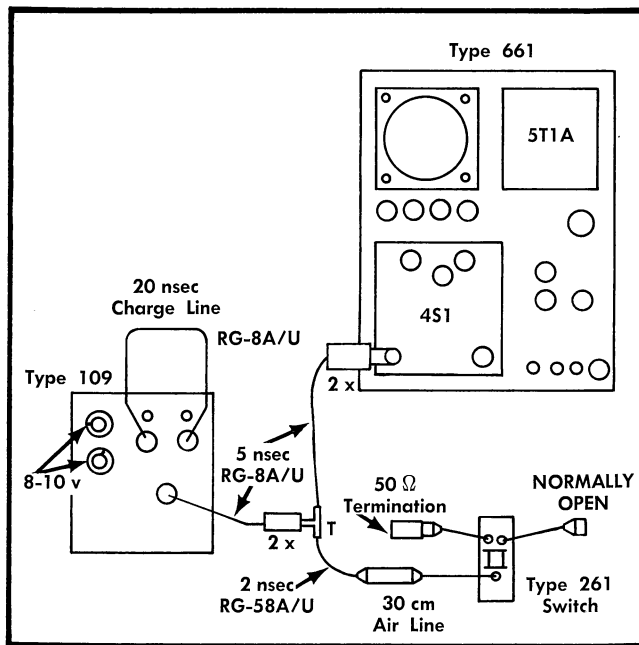

Fig. 4-2. Reflectometer circuit used in step. 3.
- Set up the reflectometer as shown in Fig. 4-2.